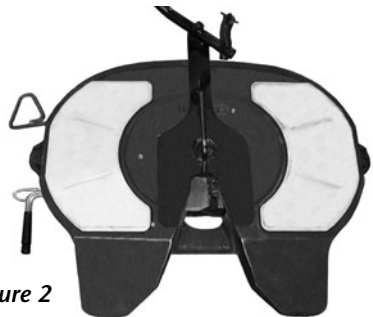

Figure 2
4. Make sure the bracket pin retention bolts and locknuts are in place and tight, as shown in *Figure 2*.
8. If there is a large amount of fore and aft movement with the adjustment tool when verifying adjustment, check to make sure the lock is engaged in **both** steps (*Figure 2*).
1. After following standard coupling procedure, push manual sliding secondary lock handle into lock detent position (*Figure 2*).